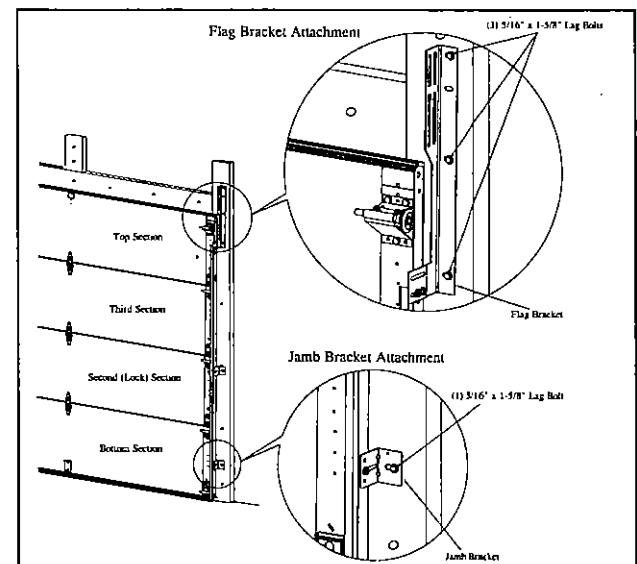

FIGURE 11
Mounting Vertical Track to Jamb — With track properly aligned, securely fasten jamb brackets with (1) 5/16" x 1-5/8" lag bolt and the flag brackets with (3) 5/16" x 1-5/8" lag bolts to jambs (Figure 11). **Note: Pre-drill 3/16" hole to prevent splitting.**